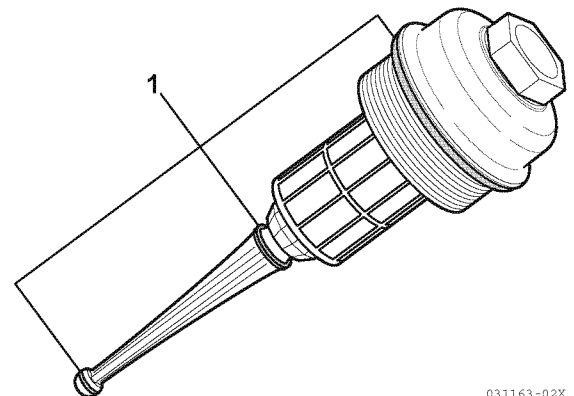

Figure 4-2
7. Replace the three O-rings (1, **Figure 4-2**) on the stem.